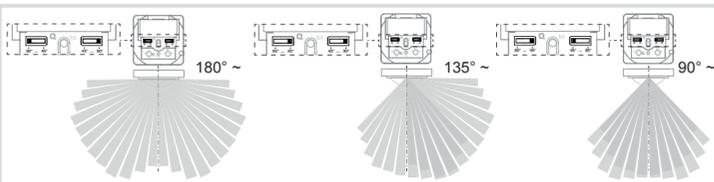
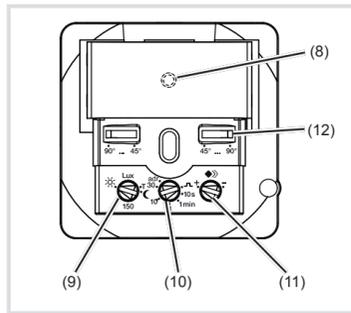

Fig. 5: Setting the detection angle
Figure 8
The detection angle can be restricted for the right side and for the left side via each adjuster (Fig. 8, 12) between 45° ... 90°. Thus, the detection angle can be between 90° and 180° (Fig. 5).
- To do this, set the response brightness potentiometer (Fig. 8, 9) to TEST.
- Turn the response brightness potentiometer (Fig. 8, 9) to the desired position.
- Turn the delay time potentiometer (Figure 8, 10) to the desired position.
- Turn the sensitivity potentiometer (Fig. 8, 11) to the desired position.